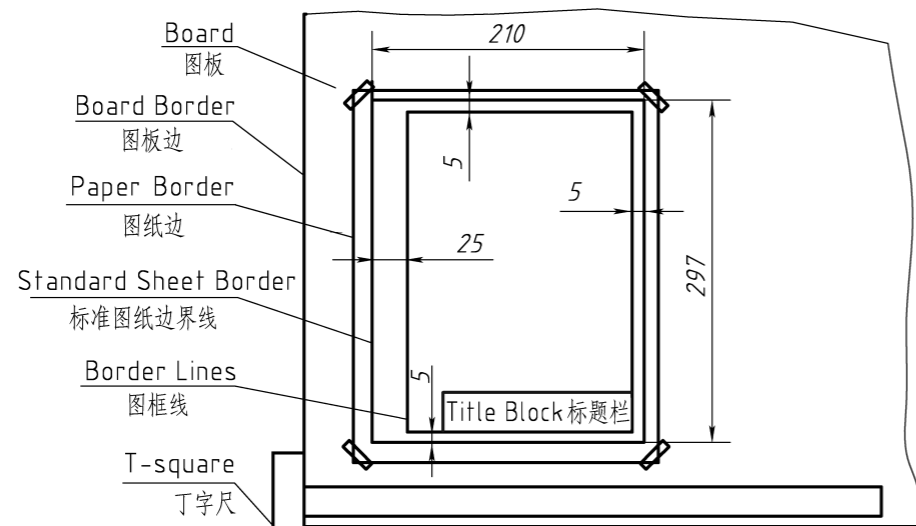
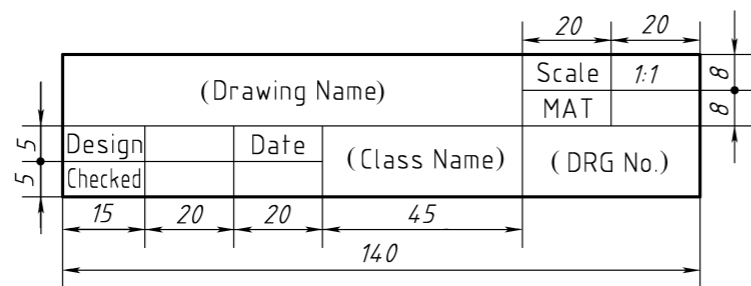

Fig. 4 Place the drawing sheet 放置图纸
Fig. 5 Title Block 标题栏
(1) Place the drawing sheet on the lower left of the board with gummed tape (Fig. 4), then draw the boundary and title block on the lower right corner of the sheet according to the national standard (Fig. 5). 将图纸用透明胶带固定在图板左下方(图4), 然后按标准幅面画出边框线和图框线, 并在图框的右下角画一标题栏(图5).
(2) Draw the rough sketches using thin continuous lines and then finish them using thick continuous lines. In order to improve efficiency, you had better thicken curved lines first and straight lines later, and draw the same line styles at the same time. 先用细实线打好底稿, 然后加深。加深时线型应按先曲后直的顺序进行, 为了提高工作效率, 对于同一类线型可一起完成。
(3) Dimension, lettering and check the drawing. 标注尺寸, 书写文字, 最后对全图进行校核。